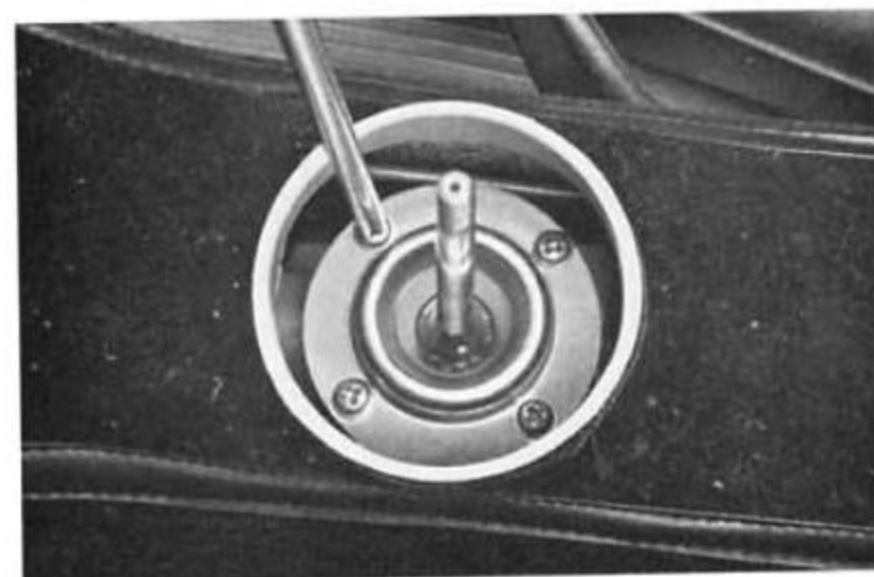

Fig. 17A-7
22. Unscrew gear shift lever knob, remove shift lever boot and disassemble the change lever from the body (Fig. 17A-7).